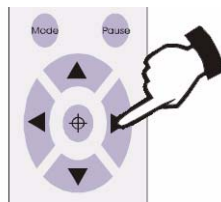
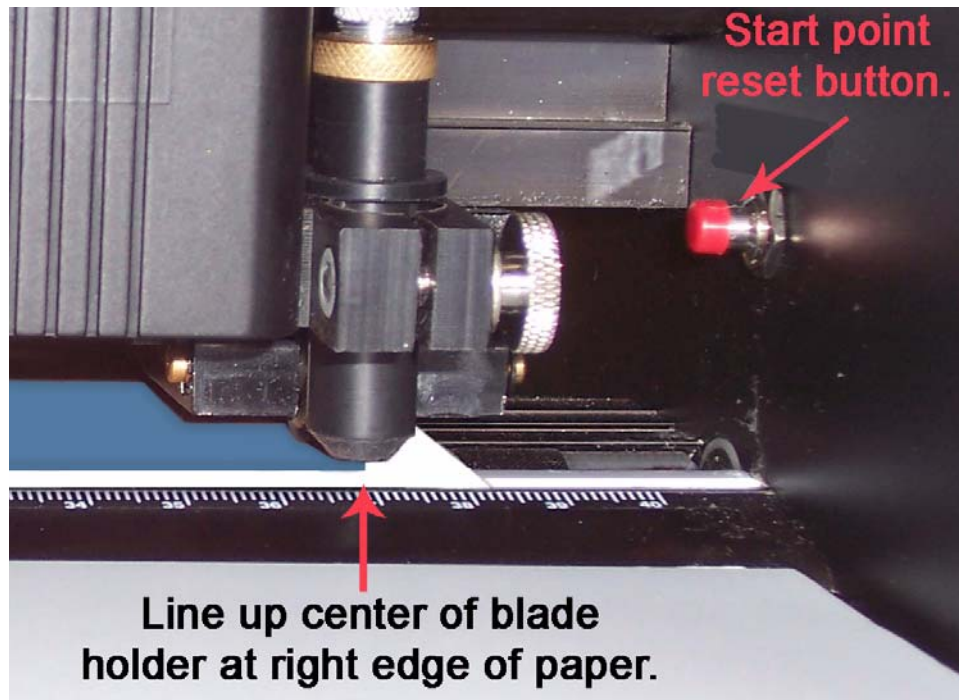

Figure 18
Figure 19
- c Press the left or right arrows to move the blade holder so that it is centered over the right edge of the paper. See figure 18 and figure 19.
- d When you have correctly positioned the blade holder, press the red **Reset** button. A **Reset** button is located on both sides of the cutter. See figure 19.